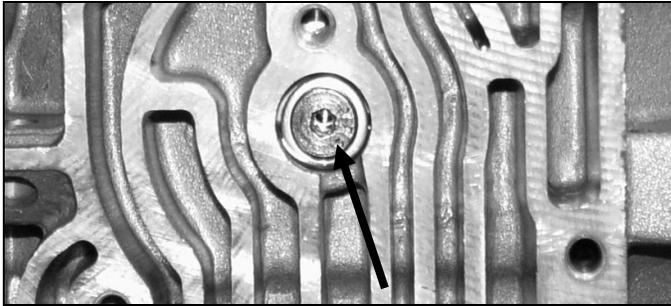

Figure 1 Remove This Bolt
9. Remove the 4th clutch housing bolt using a 40 torx socket. See Figure 1